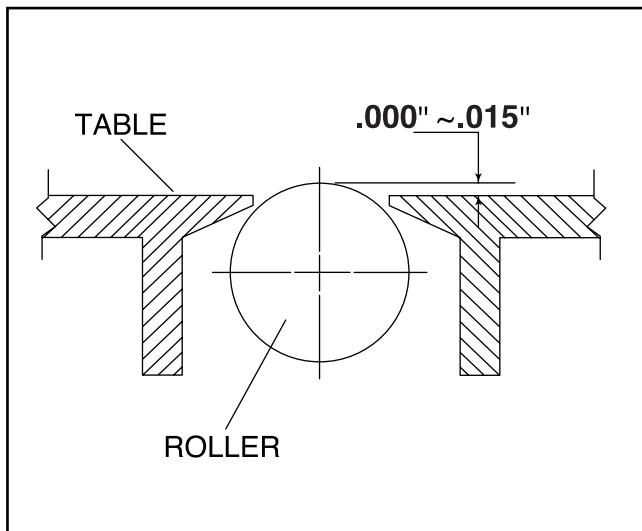

Figure 11. Bed roller tolerances.
2. Using a feeler gauge, measure the distance between the straightedge and the table. The tolerance between the table and the straightedge should be the same across the table. The ideal tolerance should be between 0" and .015", the larger measurement for rougher stock. **See Figure 11.** Be careful using the larger tolerance. Anytime the rollers are higher than the table the potential exists for snipe, or gouging near the end of the board